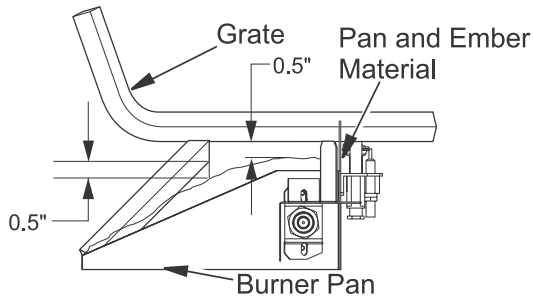

Figure 21 - Pan and Ember Material Clearances
4. Place just enough to cover entire surface and leave about a 1/2" gap under lower grate members to allow air to flow (see Figure 21, page 15).